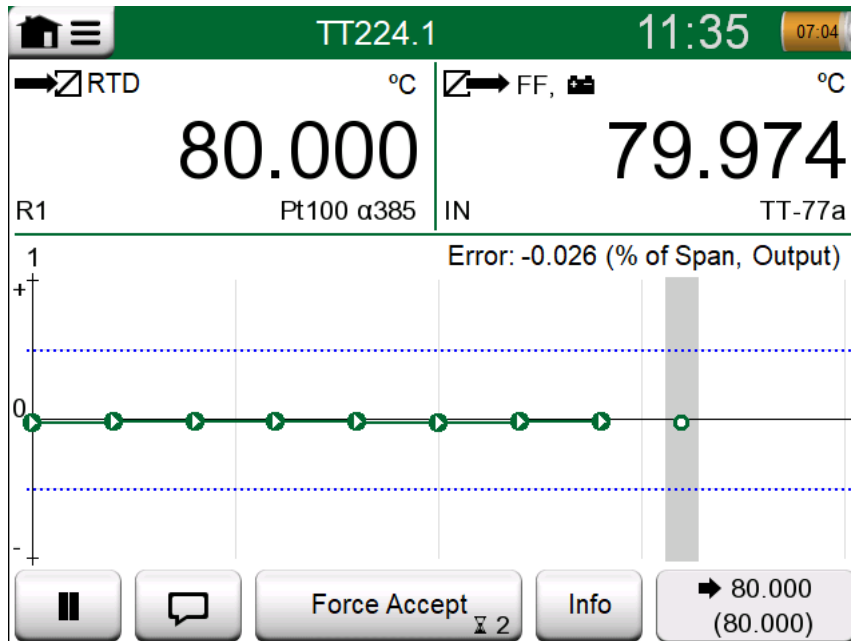

Figure 61: Calibration with Automatic Acceptance in use
3. When signal stability is reached, a timer counts down as set in **Point Delay** and then the readings are saved only if the signal stability is still valid. See hourglass in Figure 61: Calibration with Automatic Acceptance in use. If a signal becomes unstable, MC6-WS returns to phase 2.